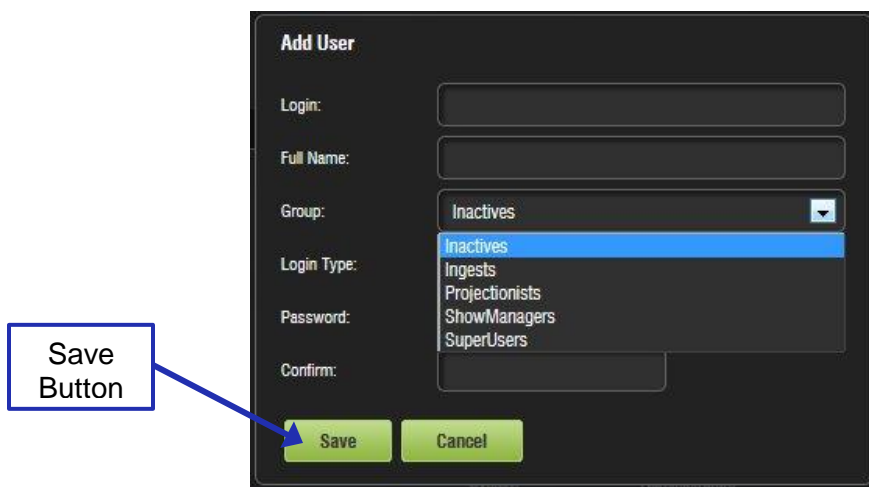

Figure 171: Account Manager GUI – Privileges Definition
- Select the proper privileges. They are listed below from the lowest level to the highest level of privileges (Figure 171):
- Click the Save button to save the new user (Figure 171).